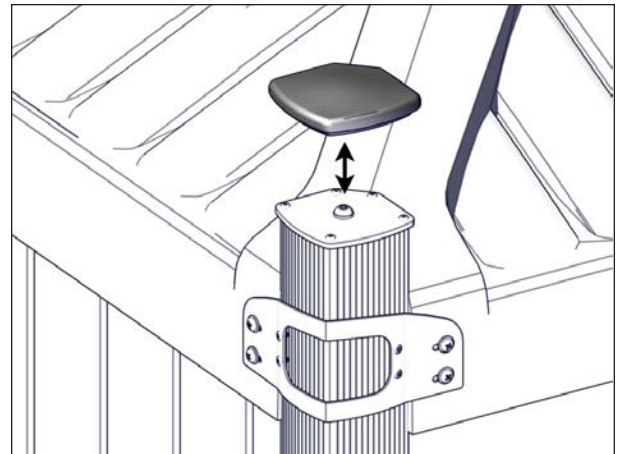

FIGURE 69: RUBBER CAP INSTALLATION
8. Install the rubber caps on all posts. These caps protect the post assembly tops from weathering see Figure 69.